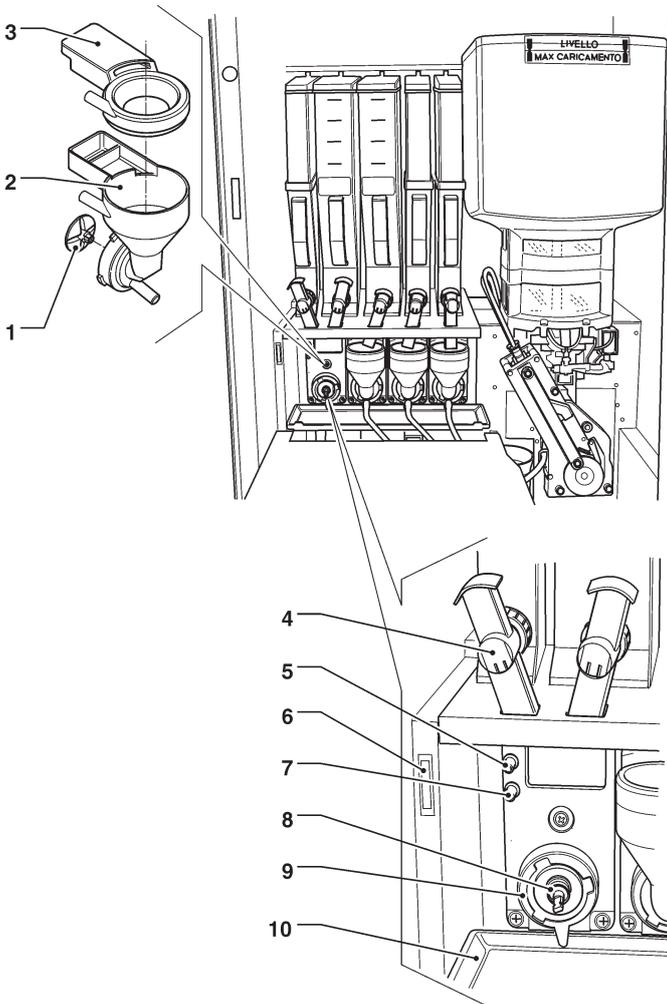

Fig. 30
- Remove the powder funnels, the water feeders, the powder deposit funnels and the impellers of whippers from the mixers (see fig. 30);